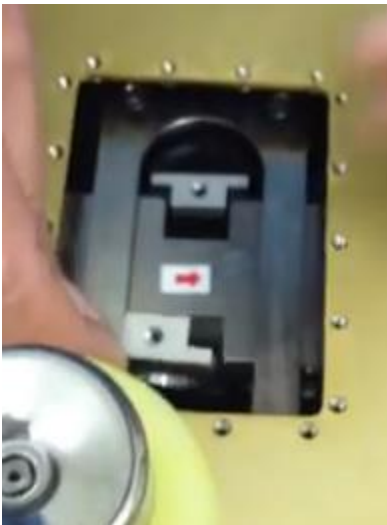

Figure 19: Reinserting Window
11. Reinsert the window into the FM-120. Insert the window at an angle (Figure 19) to keep the glass off the O-ring until the last moment.